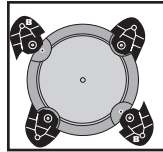
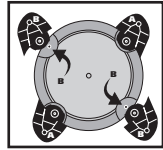

FIGURE 6
FIGURE 7
5. Take caster feet marked with the letter **B**. **FIGURE 6** and insert stem of caster foot into holes on right front and left rear of tank also marked with the letter **B**. **FIGURE 7.**